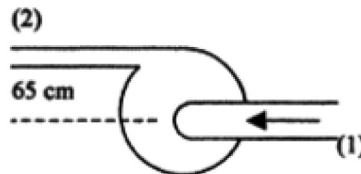

Figure Q5
- c) In a test of the centrifugal pump shown in Figure Q5, the following observations were made. Inlet pressure,  $P_1 = 13 \text{ kPa}$  and exit pressure,  $P_2 = 66 \text{ kPa}$ . The pipe diameters are  $D_1 = 12 \text{ cm}$  and  $D_2 = 5 \text{ cm}$ . The flow rate is 12 litres/s of light oil having specific gravity 0.91.